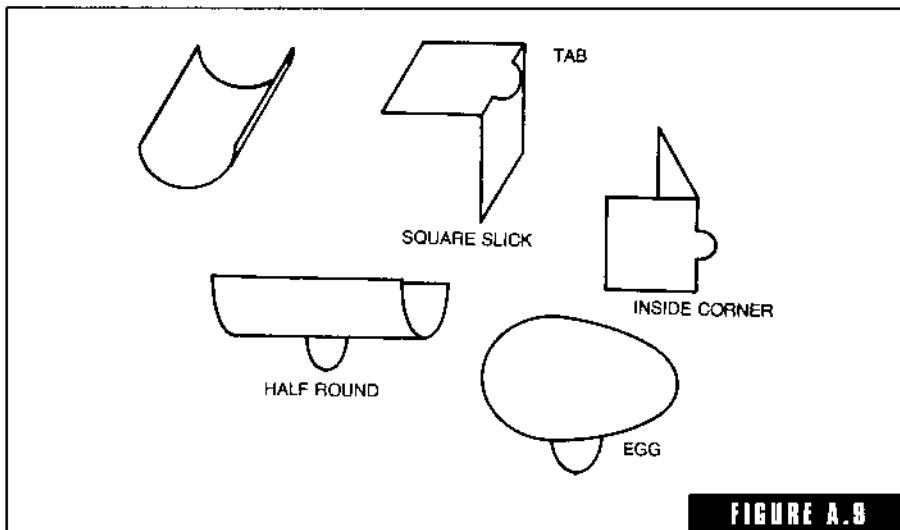

FIGURE A.9
**angle sleeker** A molder's hand tool for smoothing or sleeking inside and outside corners of a mold (Fig. A-9). These sleeker tools have a half-round tab on their back surface which is held between the thumb and first finger and used as you would a pressing iron to smooth the area you desire, especially when repairing a mold surface. Avoid excess sleeking using too much pressure. This could compact the sand at the point of sleeking too tightly and result in a kick or blow at that point.